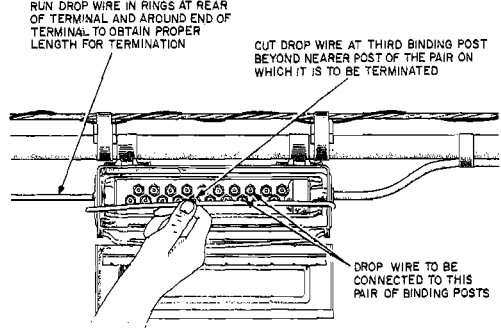

Fig. 18—Obtaining Proper Length of Wire for Termination
3.01 Cut wire to the proper length for terminating, and remove the required amount of insulation from the wire to terminate on the binding post. See Fig. 18.